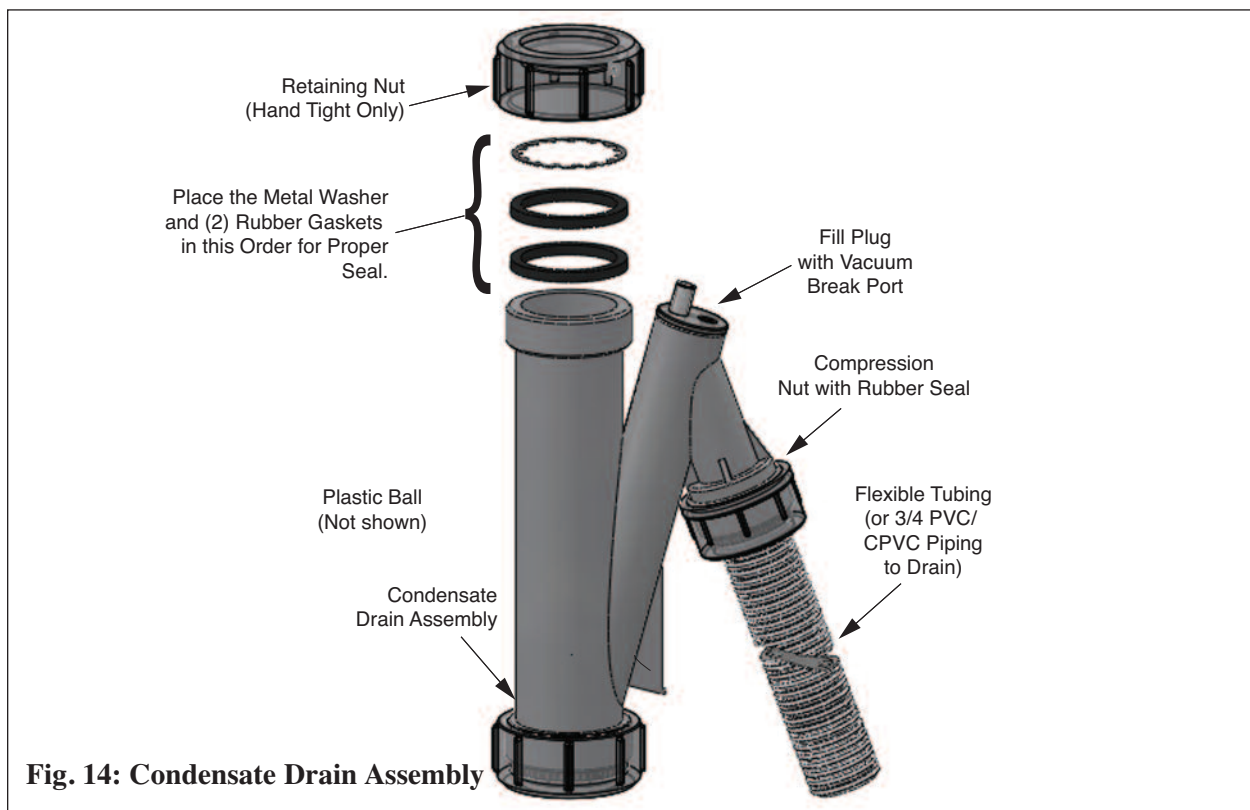

Fig. 14: Condensate Drain Assembly
1. Locate the condensate drain assembly and install as shown in Fig. 14 page 23.